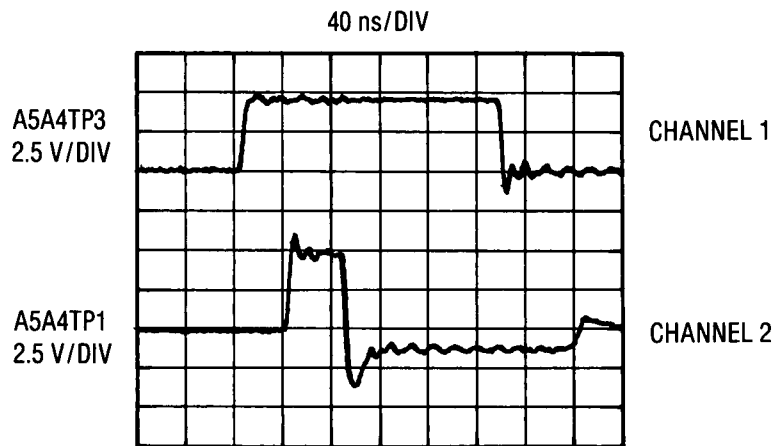

Figure 8-60. Pulse Driver Board, Input and Series Pulses
43. Connect Channel 1 of the oscilloscope to A5A4 TP3 and Channel 2 of the oscilloscope to A5A4TP1. Adjust the oscilloscope as shown in Figure 8-60 then compare the oscilloscope display to the figure.